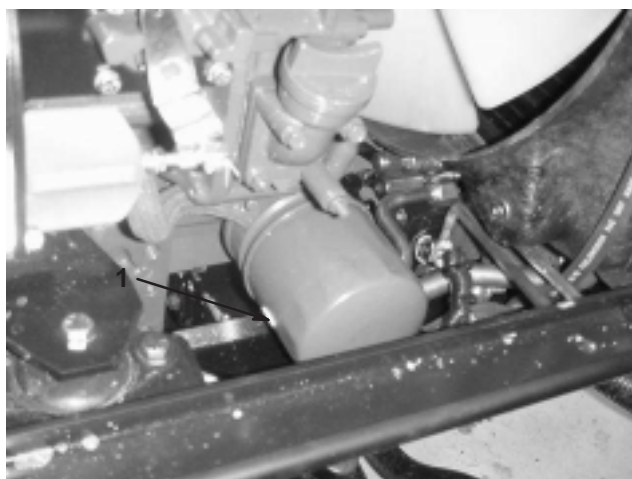

Figure 32
2. Remove the oil filter (Fig. 32). Apply a light coat of clean oil to the new filter seal before screwing it on. **Do not overtighten.**